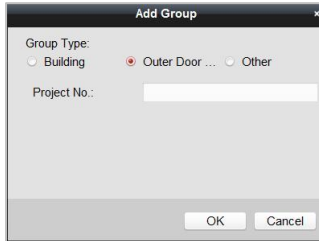

Figure 9-11 Group Adding Interface (Outer Door Station)
- 1) On the card management interface (Figure 9-11), check the checkbox(ex) of unauthorized card(s).